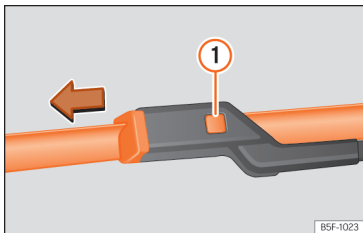

Fig. 150 Changing the windscreen wiper blades
- Press and hold release button >>> **Fig. 150** ① and pull gently on the wiper blade in the direction of the arrow.